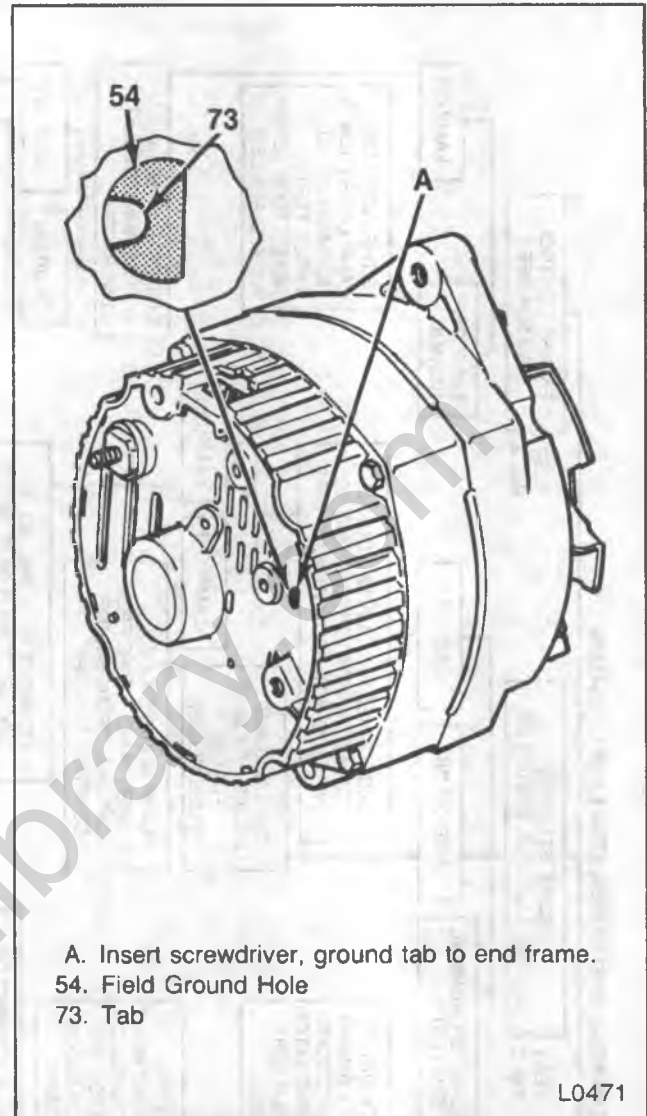

Figure 10—Generator Field Ground Tab
9. If the ampere output is not within 10 amperes of the rated output, see if the field ground hole is accessible (figure 10). If it is not accessible go to step 14.